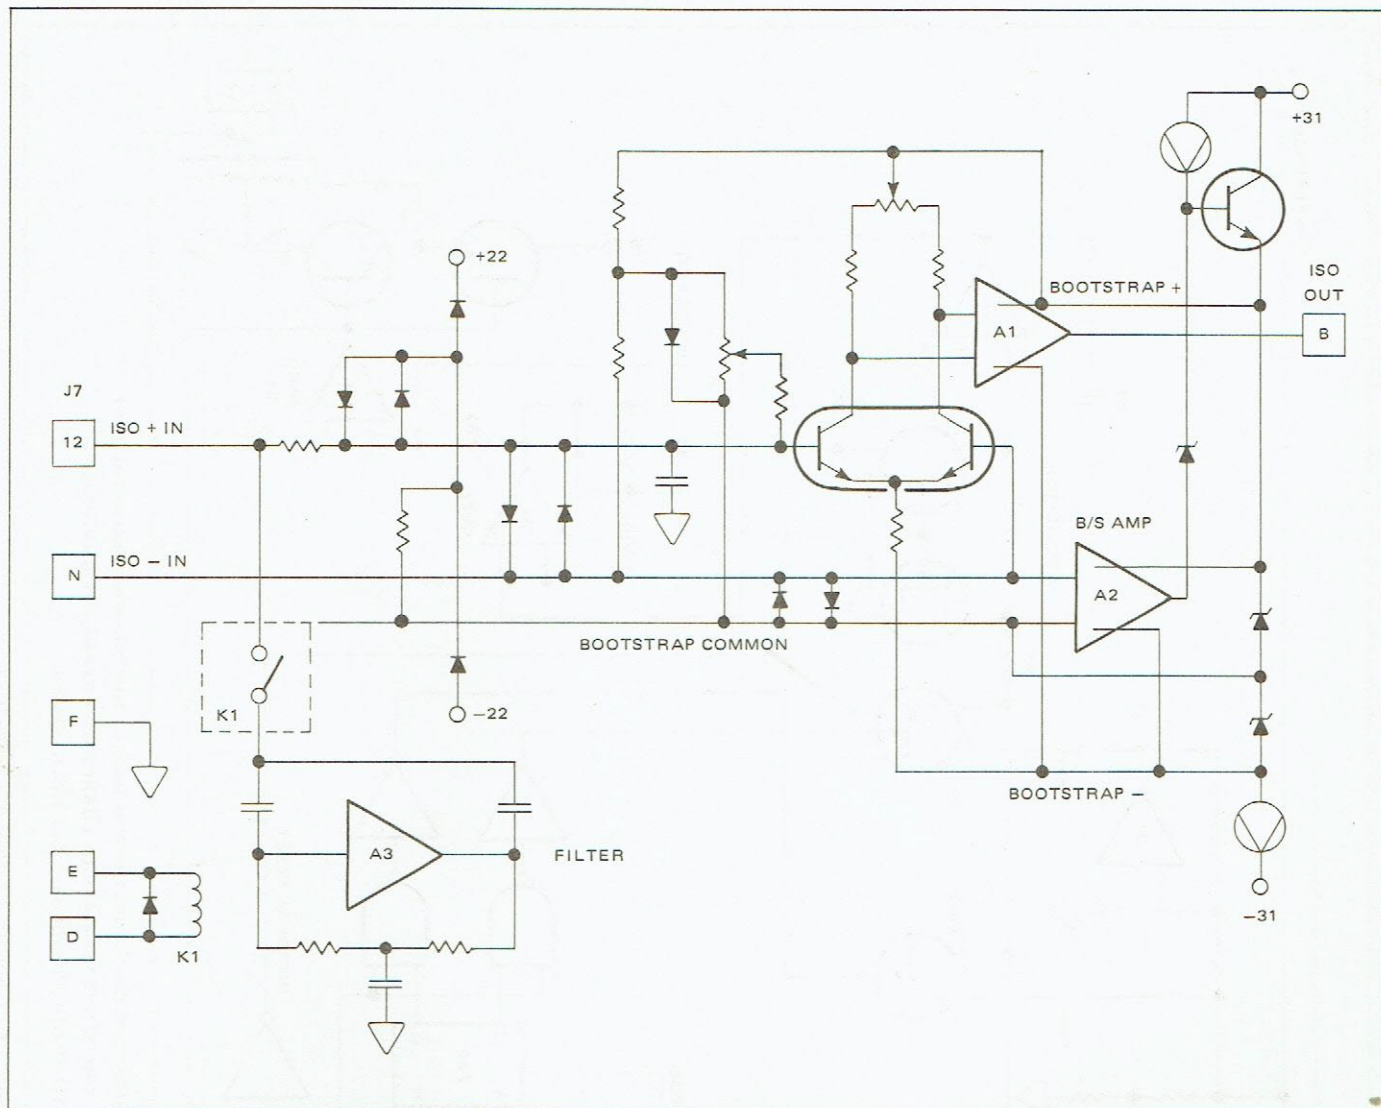

Figure 4.4 - Simplified Schematic - Isolator
4.37 The isolator receives the conditioned input signal from the attenuator on the mother board. With filter selected or when the AC function is selected (in which case filter is automatically selected) normal mode noise on the input signal is attenuated. Filtering is achieved by an active 3-pole filter operating in conjunction with the 100 Kohm impedance of the attenuator. The input signal is then buffered and, if required, amplified by the isolator. The isolator (shown simplified in figure 4.4) consists of an